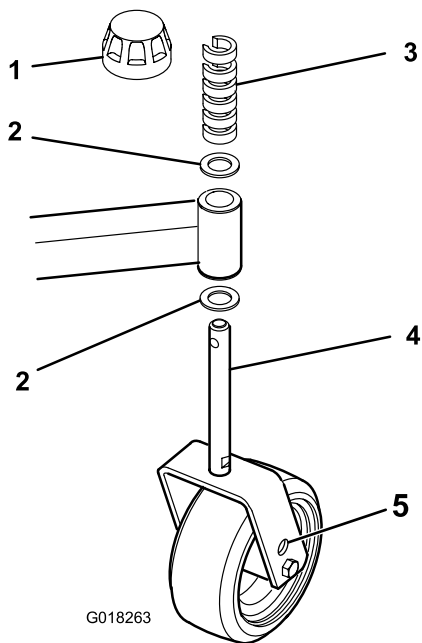

Figure 19
6. Adjust the shims, on the front or rear castor arms, to attain the required cutting unit pitch (Figure 19).